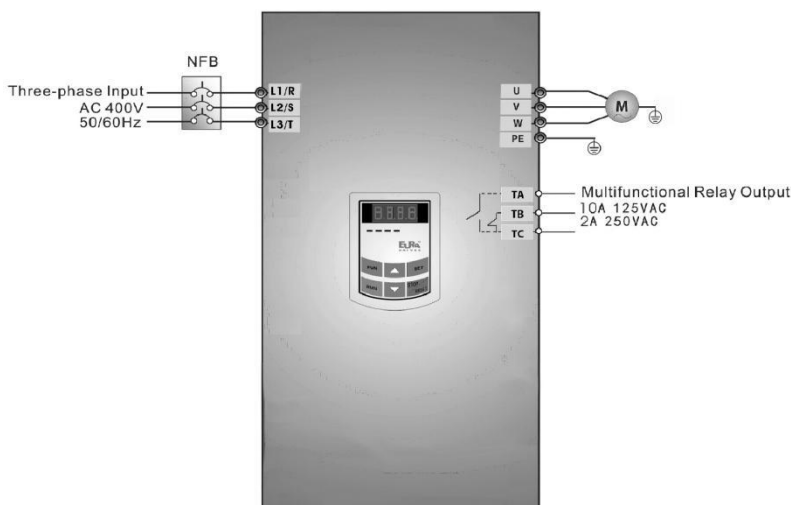

Fig5-7 Wiring Diagram 1
- (1) Connect the wires in accordance with Figure 5-7. After having checked the wiring successfully, switch on the circuit breaker, and power on the inverter.
- (2) Press the “Fun” key, to enter the programming menu.
- (3) Measure the parameters of the motor
- (1) Connect the wires in accordance with Figure 5-7. After having checked the wiring successfully, switch on the circuit breaker, and power on the inverter;
- (3) Study the parameters of the motor: the operation process is the same as that of 5.3.1.
- (4) Set functional parameters of the inverter: